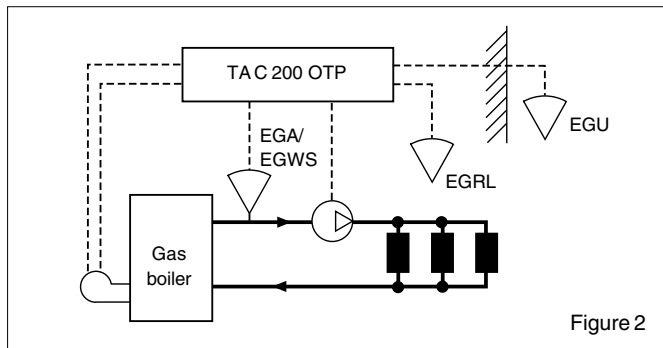

Figure 2
2. Gas boiler, two stage on/off control circuit (figure 2).